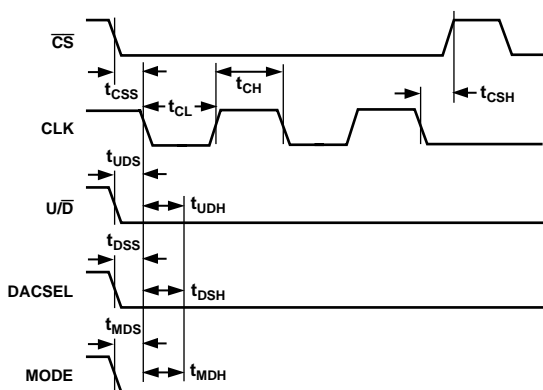

Figure 2. Detail Timing Diagram
The AD5222 provides a 128-position, digitally-controlled, variable resistor (VR) device. Changing the VR settings is accomplished by pulsing the CLK pin while  $\overline{CS}$  is active low. The U/D (UP/DOWN) control input pin controls the direction of the increment. When the wiper hits the end of the resistor (Terminal A or B) additional CLK pulses no longer change the wiper setting. The wiper position is immediately decoded by the wiper decode logic changing the wiper resistance. Appropriate debounce circuitry is required when push-button switches are used to control the count sequence and direction of count. The exact timing requirements are shown in Figure 2. The AD5222 powers ON in a centered wiper position, exhibiting nearly equal resistances of  $R_{WA}$  and  $R_{WB}$ .